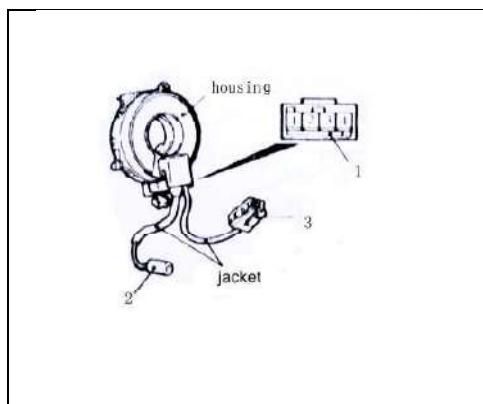
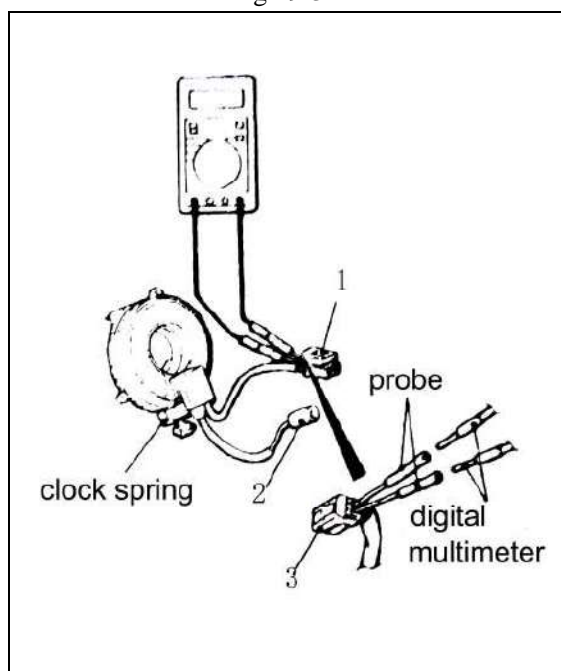

Fig 19-31
Fig 19-32
- (2) Clock spring check (See fig 19-31, fig 19-32)
5) Connect a digital multi-meter to the probe as shown fig 19-32, to check that conductivity is present between the terminals.